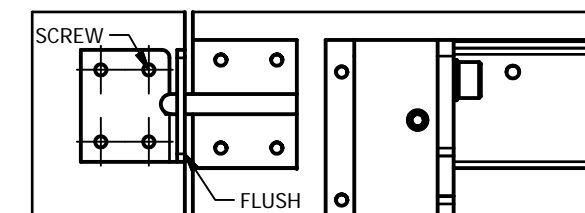

Fig. 10, LEFT UNDERSIDE
-Align both front catches with front pins and flush with fixed countertop. (Fig. 10)